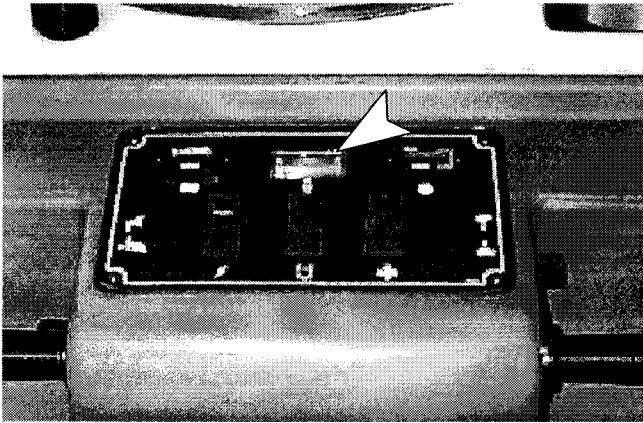

FIG. 9.
4. Read brush pressure meter located on control console. For proper height, needle should read in green zone. If brush needs adjusting see below. (Figure 9)